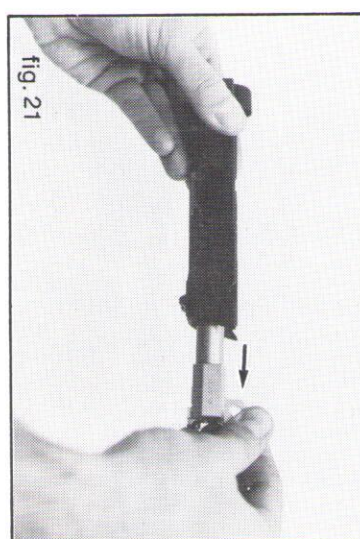

fig. 21
11. Slide the barrel out (rearward) from the slide (fig. 21).